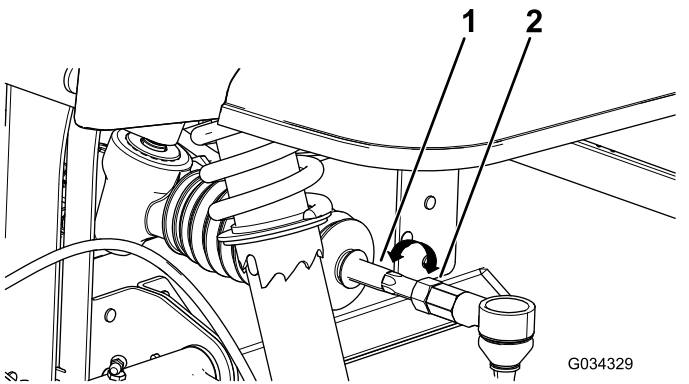

Figure 47
4. If the measurement does not fall within 0 +/- 3 mm (0 +/- 1/8 inch), loosen the jam nuts at the outer end of the tie rods (Figure 47).